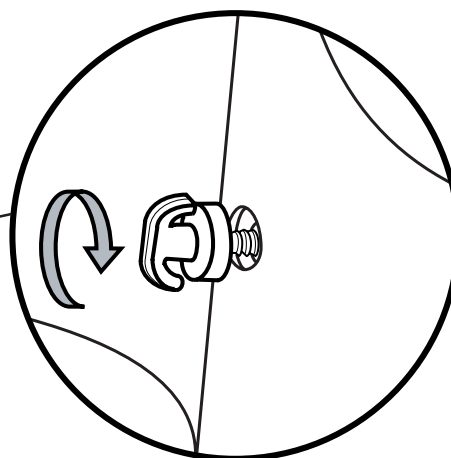

Fig. 5A
8. Install the T-Anchors from Anchor Assy with the self-tapping screws in the lower opening, each side. May require slight force to begin. Tighten snugly and ensure the T-Anchor is in the up/down position when tight. Do not tighten excessively. (Fig. 5A)